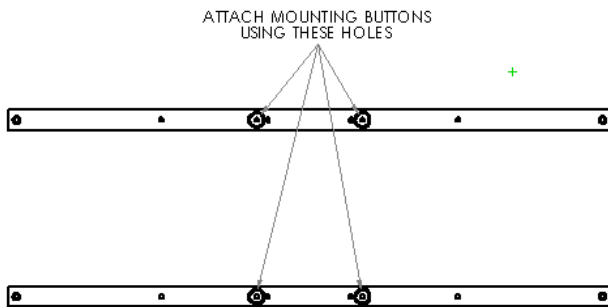
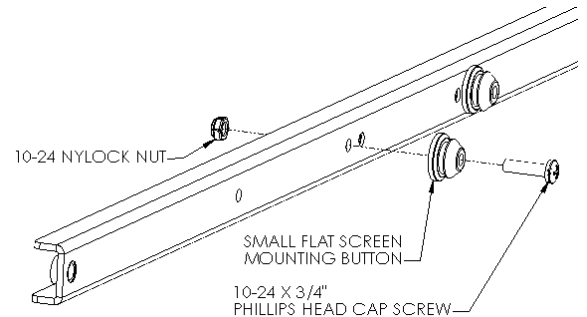

Figure 1
Figure 2
- Using a 10-24 Phillips head cap screw and Nylock nut, secure mounting button, with chamfered hole of mounting button (larger surface) facing bracket, to bracket (4 places) (see Figure 1 and Figure 2).